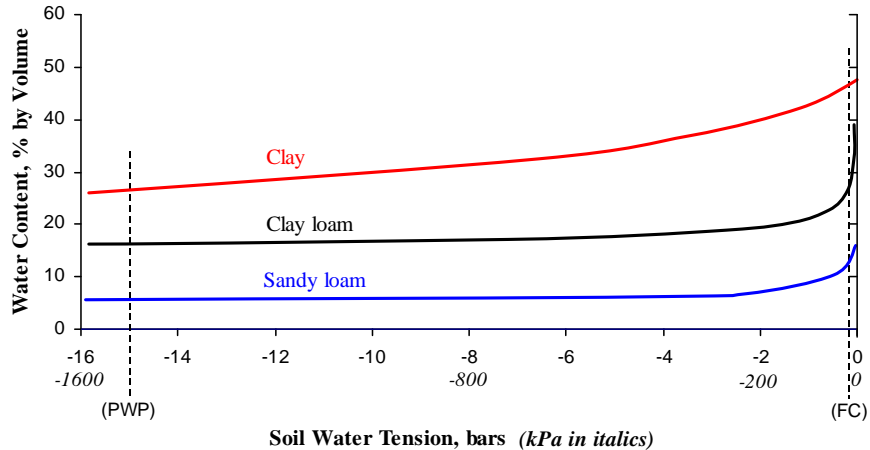

Figure 2. Example of soil moisture content curves
- *Soil measurements.* Different people prefer different devices, but the most important thing is to actively measure different depths, and occasionally dig backhoe pits. With sandy and sandy loam soils, or shallow soils, it is particularly important to monitor soil moisture at various depths in addition to using leaf water potential readings. This is shown in the three hypothetical soil moisture characteristic curves in **Figure 2**. The key point is that the vast majority of the AVAILABLE water held in a sandy loam soil is held at a matrix potential between (0) and (-2) bars. Once that soil moisture is used up, the matrix potential plummets rapidly.